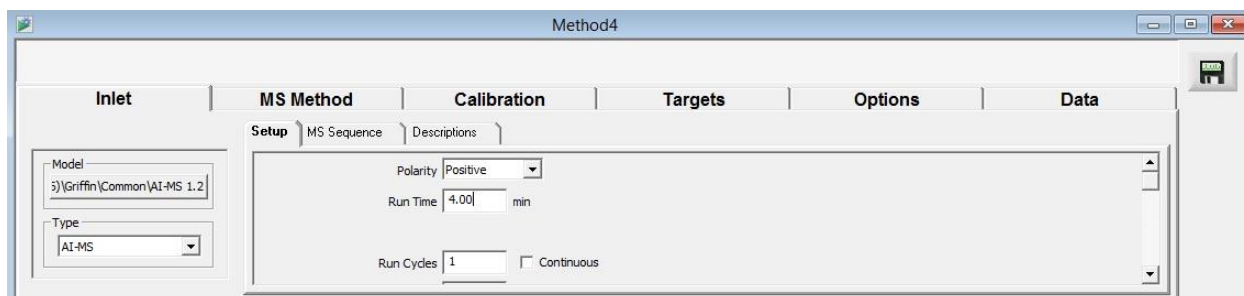

Figure 4.19 – Method set-up for DDS
The method setup for DDS (Data Dependent Scanning) will open (Figure 4.19).
3. Under the “Inlet” tab and “Setup” subtab, specify the polarity for the method being created with the drop down menu. Then specify a maximum running time for the method (Figure 4.19). The base MS scan will run for one half of the time entered, and any triggered MS/MS confirmatory scans will also run for one half of the time entered, starting from the time in which they first triggered. For example, entering a time of 4.00 minutes will set the method to collect data in the base scan for a maximum of 2.00 minutes, at which point the method will end unless a target chemical is detected and